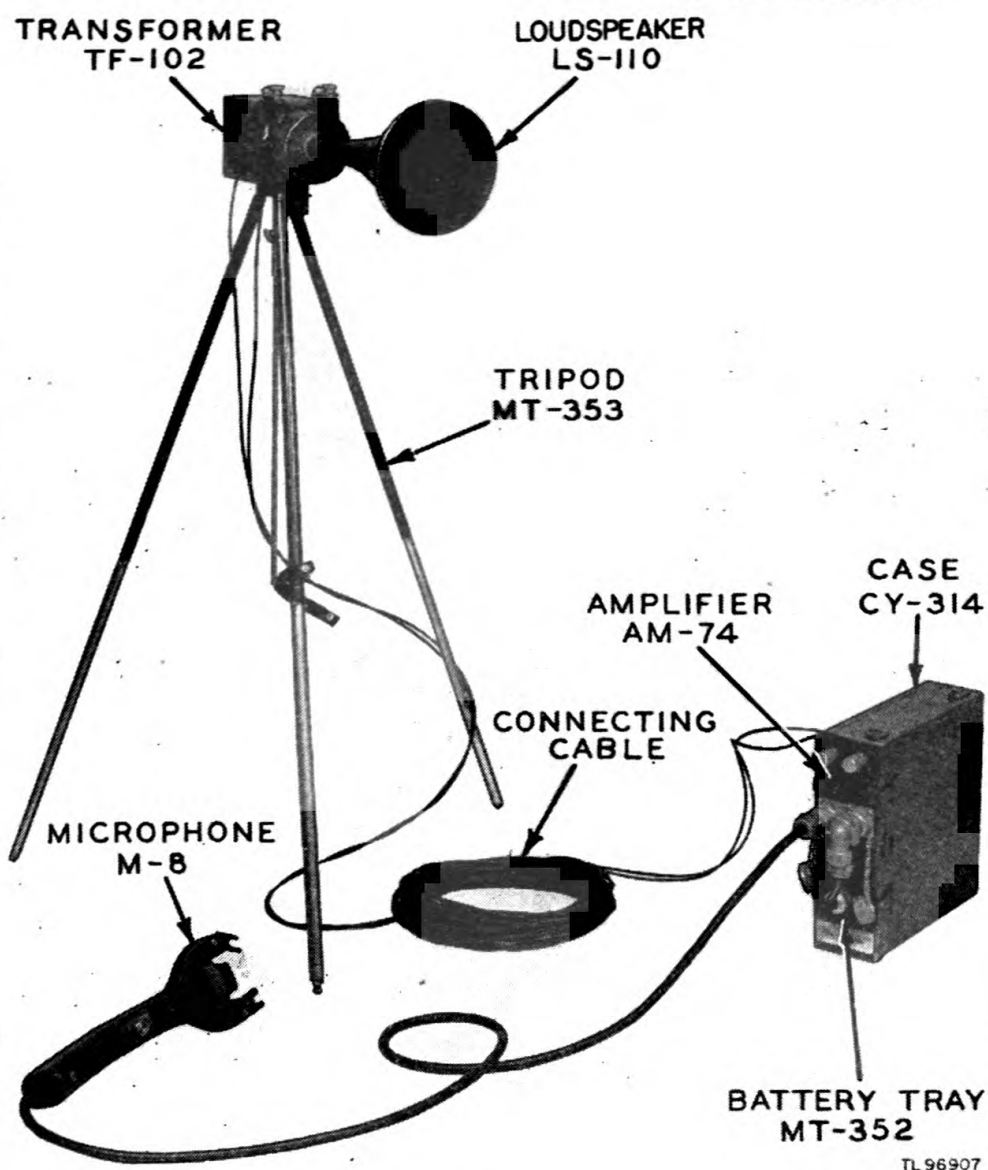

Figure 7. Public Address Set AN/PIQ-1 used with Tripod MT-353.
b. Front Panel of Amplifier AM-74. On the front panel two terminal binding posts are located near the top, two connectors near the bottom, and a VOLUME control knob is placed in the middle. The binding post terminals are used to connect Amplifier AM-74 to Transformer TF-102 by means of a connecting cable when the equipment is assembled using Tripod MT-353 (fig. 7). By turning the VOLUME control knob clockwise the volume is increased and turning it in the opposite direction will decrease the volume. Power is supplied through the connector near the bottom of the right side of the front panel either from the Battery Tray MT-352 or from an external 6-volt, d-c source. Microphone M-8 is connected to the other connector near the bottom on the left side of the front panel. Caps for the two connectors are chained to the front panel and should be screwed on the connectors when not in use.
(1) Screw the two parts of Loudspeaker LS-110 together.
(2) Fasten the loudspeaker terminal thumbscrews to the slotted terminals on Microphone M-8.
(3) Tighten the thumbscrew on the microphone to hold the loudspeaker firmly in place.
(4) Check to see that Amplifier AM-74 is in the top of Case CY-314 and Battery Tray MT-352 is in the bottom of the case, and connect the battery tray cord to the amplifier. Check condition of batteries (par. 7e).
(5) Fasten the connector on Microphone M-8 to the connector on Amplifier AM-74.
(6) Clip the carrying strap into the rings on top of Case CY-314 and sling the strap over a shoulder. Put another strap about the waist and snap it to the rings on the side of the case to hold it snugly. The third strap should be clipped to the ring on Microphone M-8 and put around the neck.
(7) The equipment is now ready for operation.
b. Stationary Use. For use with the tripod proceed as follows (fig. 7) :
(1) Remove Tripod MT-353 and extend the legs to the desired length.
(2) Place Transformer TF-102 in position on the tripod. Screw the rod on the tripod into the tapped hole on the bottom of the transformer.
(3) Adjust the rod to the desired height and lock the threaded rod in place with the wingscrew.
(4) Screw the two parts of Loudspeaker LS-110 together and fasten the terminal thumbscrews to the slotted terminals on Transformer TF-102.
(5) Remove the connecting cable (Wire W-110-B) from the carrying Case CY-313 and fasten one end to the thumbscrew terminals on Transformer TF-102.
(6) Remove Case CY-314 from carrying Case CY-313 and connect Amplifier AM-74 to Battery Tray MT-352.
(7) Fasten the other ends of the connecting cable to the two thumbscrew terminals at the top of the front panel on Amplifier AM-74.
(8) Fasten the connector on Microphone M-8 to the connector on the front of Amplifier AM-74.
(9) The equipment is now ready for operation.